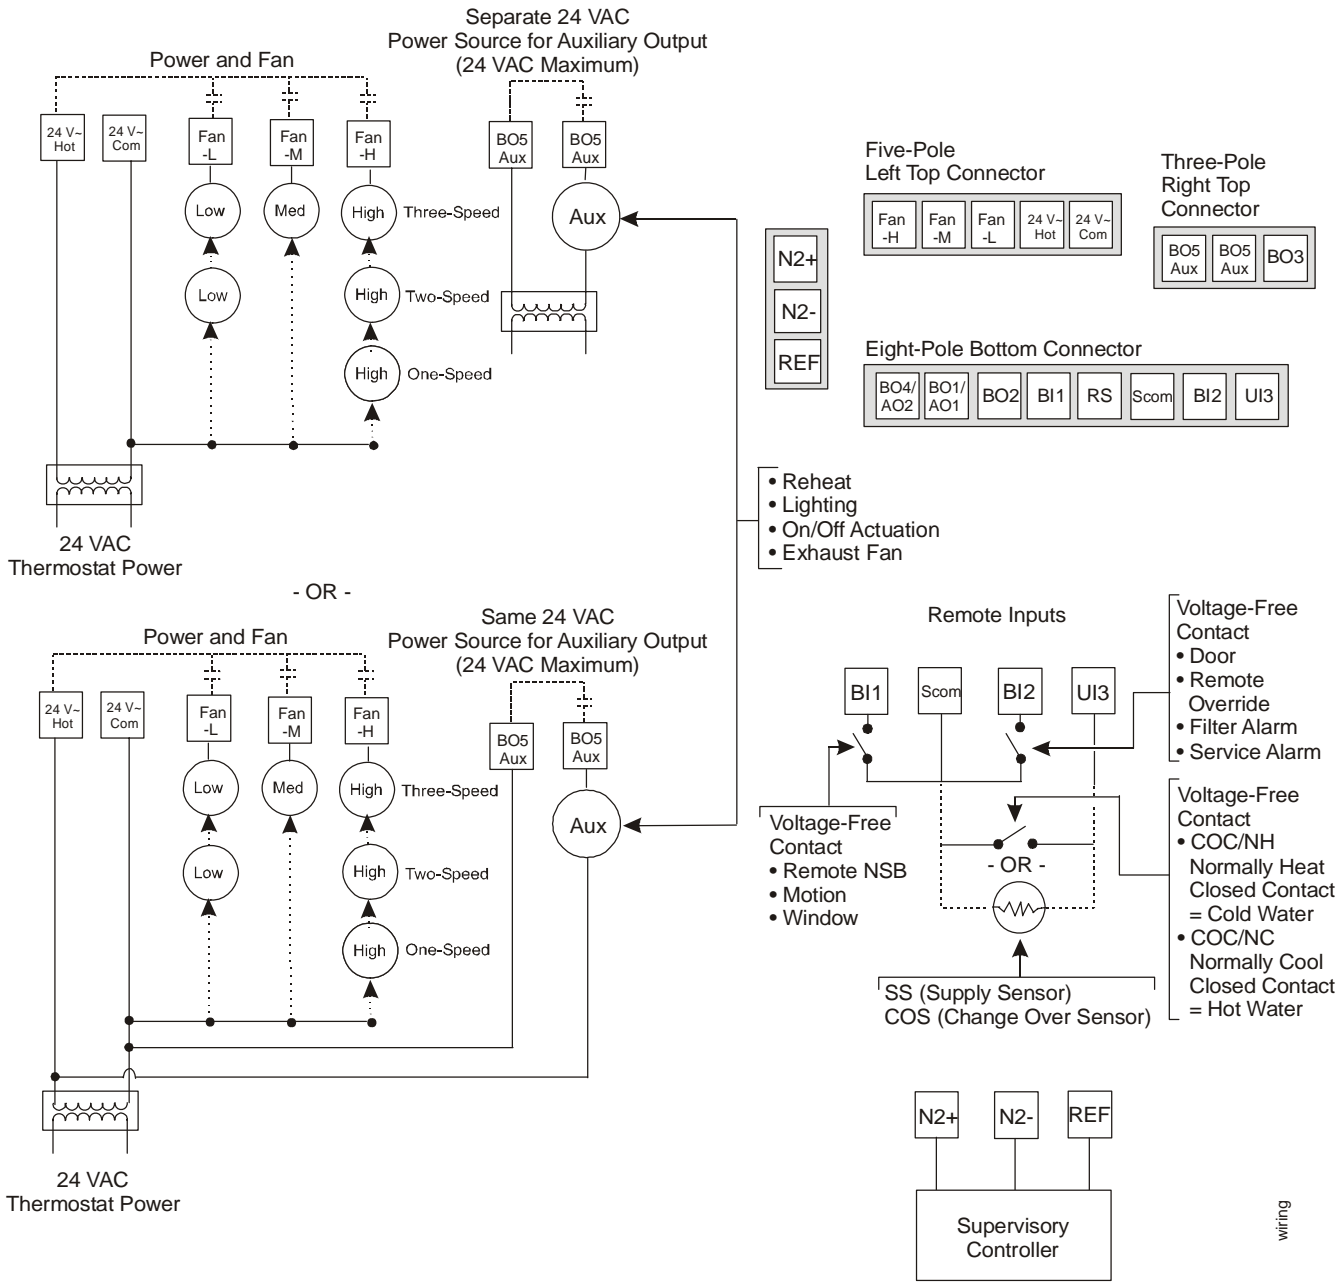
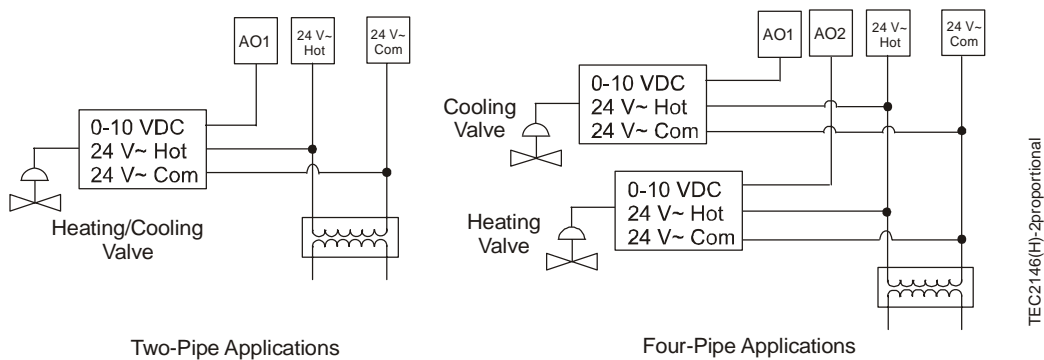

Figure 5: Wiring the TEC21x6(H)-2 Series Thermostat (See Table 1.)
Figure 9: Wiring TEC2146(H)-2 Thermostats for Proportional Control
1. Strip the ends of each wire 1/4 in. (6 mm) and connect them to the appropriate screw terminals as indicated in Table 1 and Figure 5 through Figure 9.
Table 1: Terminal Identification (See Figure 5.)